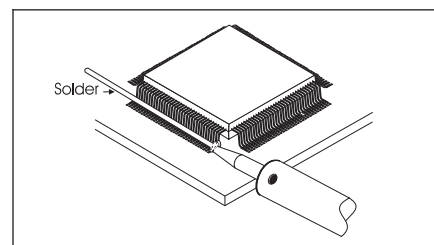

Figure 1 Tack and Wrap Solder
5. Tack solder to one of the corner component leads using the soldering handpiece with a chisel tip installed. Wrap solder around the four sides of the component. Tack solder at the end of the last side. (See Figure 1.)